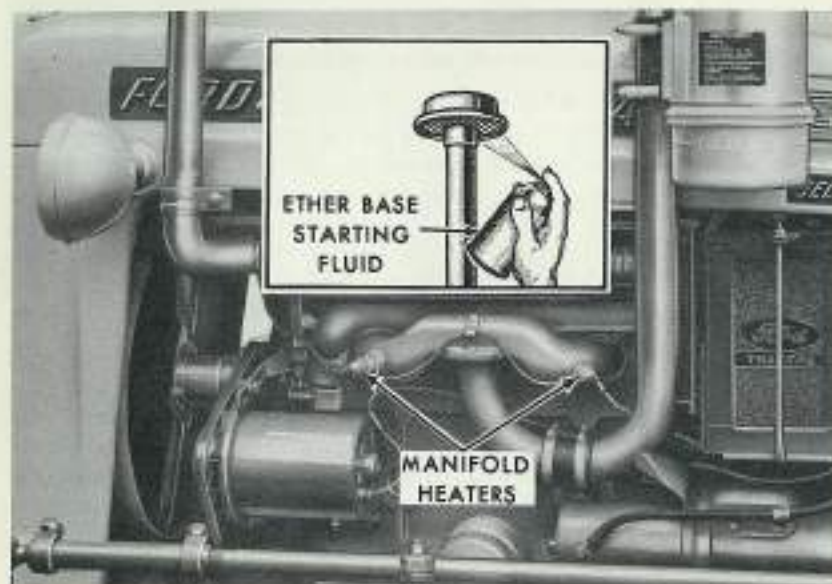

Figure 12
**Intake Manifold Heaters:** These heaters are used as a starting aid for cold temperatures above 15° F. The manifold heater assembly, Figure 12, is installed in the air intake manifold to heat the air before it enters the combustion chamber. The panel button switch, controlling the electric current to the manifold heating elements, is mounted above the key. To operate the manifold heater, turn the key switch on and pull the throttle down to the 1/2 open position. Depress the heater circuit button for approximately 30 to 90 seconds, depending on the temperature. Release the heater button and proceed to start the engine.
**Ether Starting Aid:** For temperatures below 15° F, it is recommended that an ether base starting fluid be sprayed into the air inlet stack, Figure 12, while the engine is cranked. This starting fluid is available in spray-type containers at your Ford Tractor and Implement Dealer, or from diesel fuel suppliers. Complete instructions are given on the container.